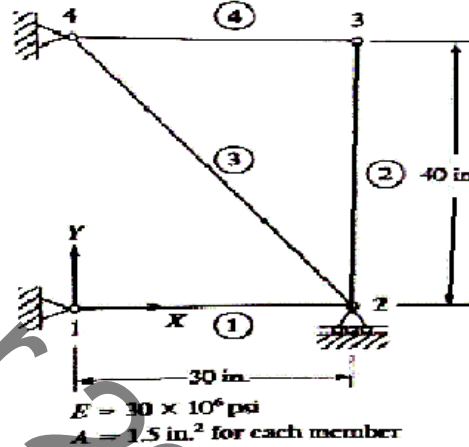

Figure 3
3. For the truss in figure 3, a horizontal load of  $P = 4000$  lb is applied in the x direction at node 2.